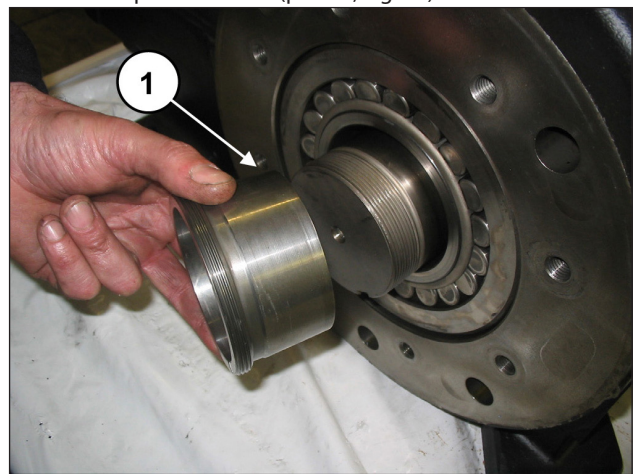

Fig. 26
Remove the pressure bush (pos. ①, Fig. 26).